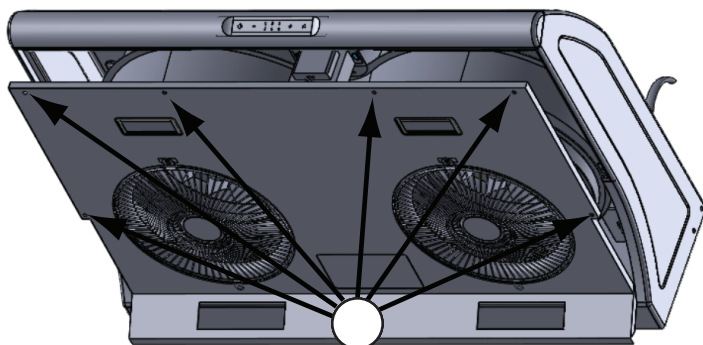

FIG. D1
1. Remove bottom panel by 6 screws (FIG. D1) and disconnect LED light quick connectors.